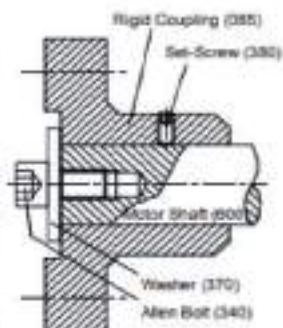

Fig. 9
- Place the motor (600) vertical as the shaft end comes to the upper side.
- Slip the rigid coupling (085) onto the motor shaft put the washer (370) on the rigid coupling (085) and tighten by using imbus head bolt (340). So that the shaft end and the coupling end will be on the same plane (see Fig. 9).
- Tighten the set-screw (380) over the rigid coupling (085).
- Mount the pump shaft (060) to the rigid coupling (085).
- Assemble the motor pedestal (012) to the motor (600).
- Place the stuffing box cover (046) onto the motor pedestal (012).
- Slip the rotating part of the mechanical seal onto the pump shaft (060) and place the spacer sleeve (057).
- Place the impeller key (210) into keyway, slide the impeller (050) onto the shaft (060) and screw the impeller nuts (065).
- Assemble the volute casing (001).